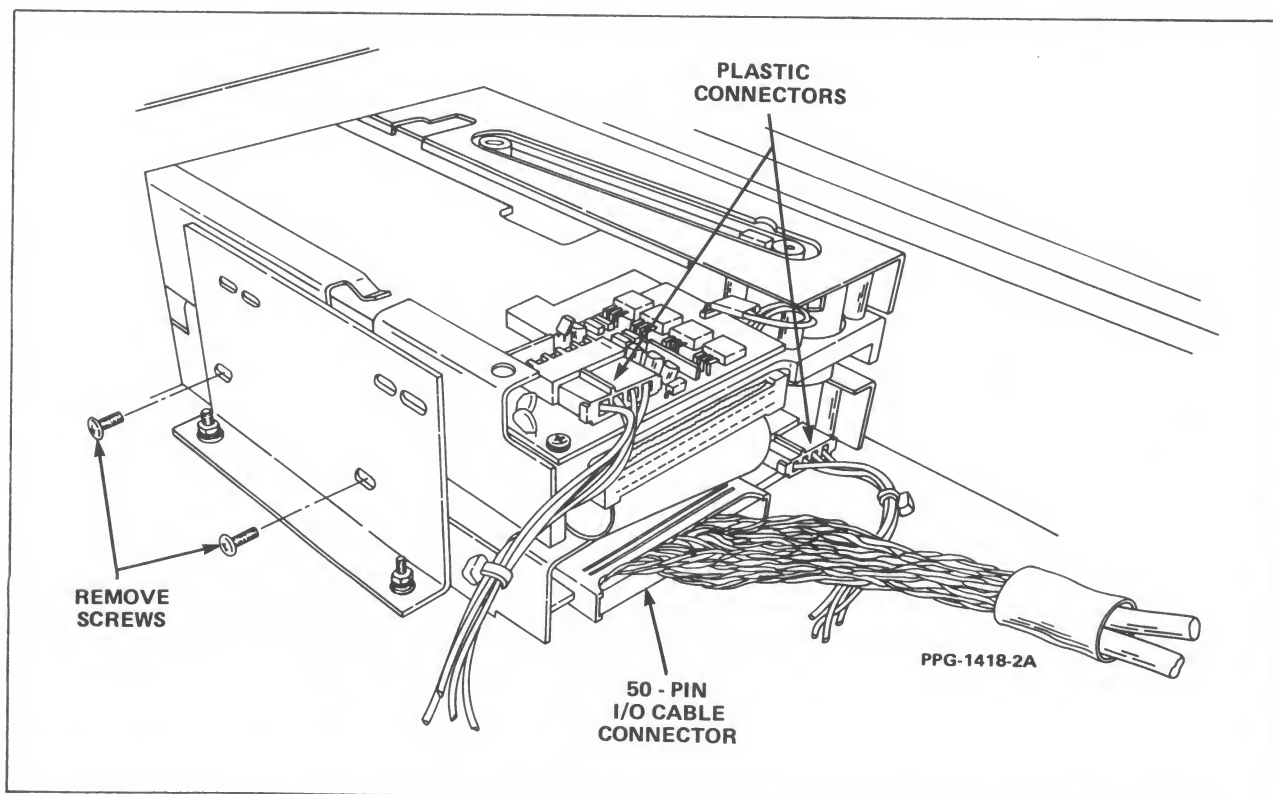

Figure 6-5. Tape Cartridge Drive Cable Connections and Support Frame
3. Disconnect the two plastic connectors used to connect the tape cartridge drive to the power supply assembly (see figure 6-5).
4. Disconnect the 50-pin I/O cable connector from the rear of the tape cartridge drive (see figure 6-5).
5. Remove and save the two screws attaching the support frame to the right side of the tape cartridge drive. Use the 1/4-inch hexdriver to remove the screws (see figure 6-5).